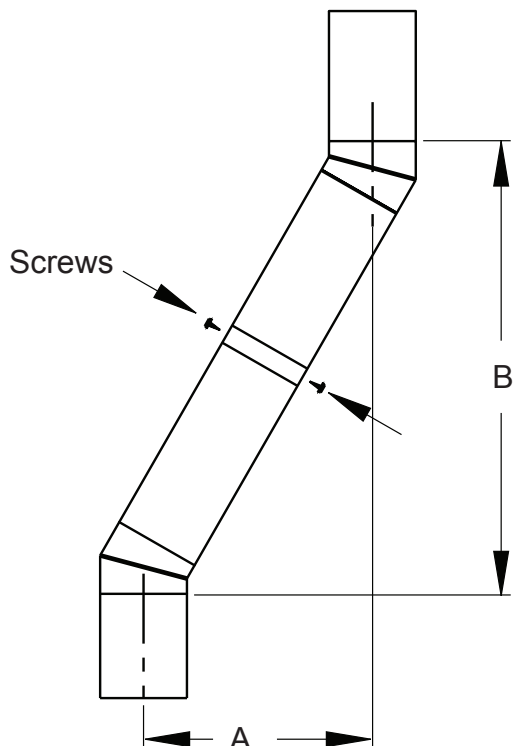

Figure 12 - Elbow Offset
Continue to assemble chimney sections as outlined, making sure that both inner and outer pipe sections are locked together. When installing double wall snap-lock chimney together, it is important to assure joint between chimney sections is locked. Check by pulling chimney upward after locking. Chimney will not come apart if properly locked. It is not necessary to add screws to keep chimney together (exception - see Figure 12, page 10).
- All pipe connections between offset and return must be secured with two screws on outer pipe only (see Figure 12, page 10). Do not penetrate inner stainless.